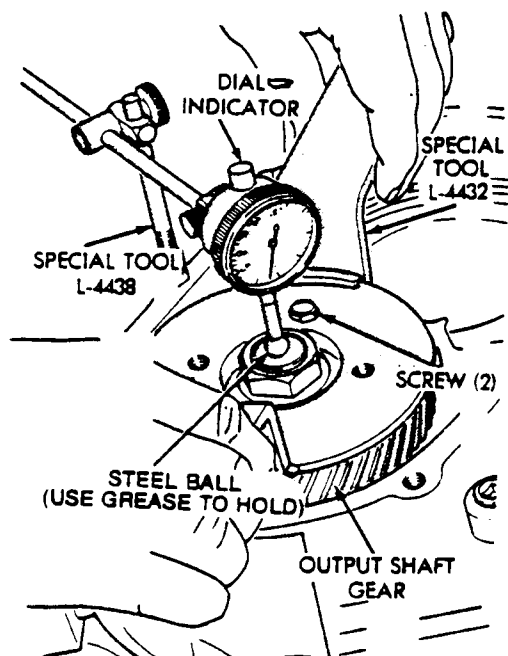

FIGURE 14
4. To measure bearing end play: (Reference Figure 14)